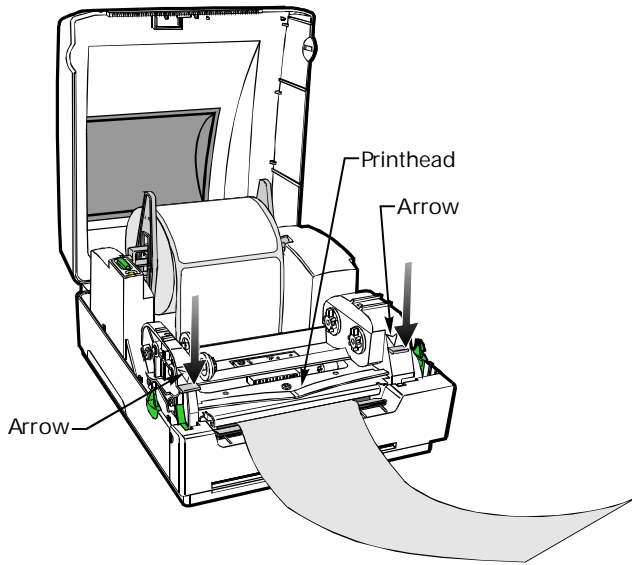

Figure 16
14. Close the printhead by pressing down at both arrows (refer to Figure 16).